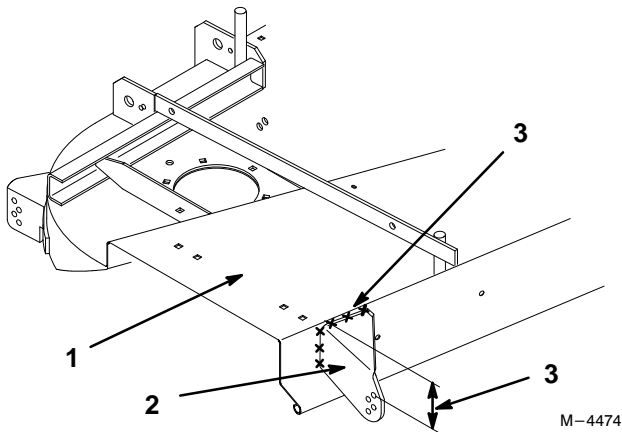

Figure 2
3. Measure 3-3/8 in. down from the top of the deck to the center of the top hole in bracket (Fig. 2).